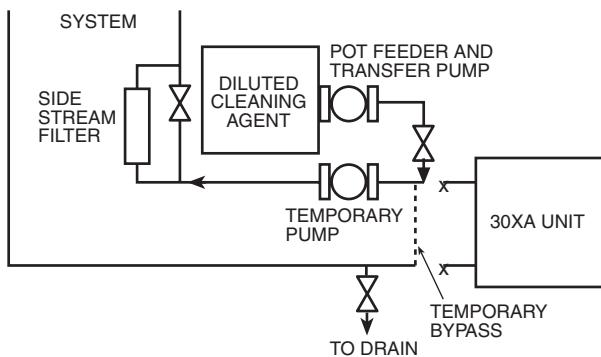

Fig. 55 — Cleaning Using a Side Stream Filter
- c. A side stream filter is recommended (see Fig. 55) during the cleaning process. Filter side flow rate should be enough to filter the entire water volume every 3 to 4 hours. Change filters as often as necessary during the cleaning process.